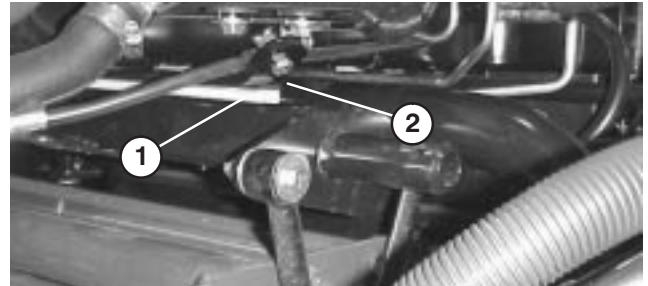
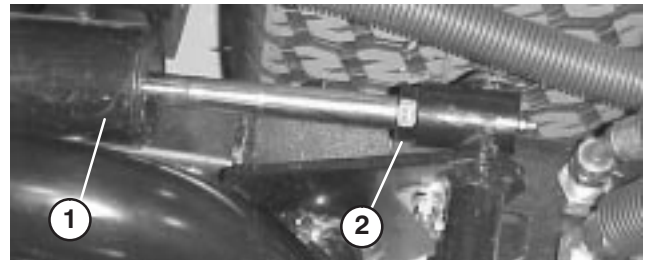

Figure 27
Figure 28
3. Start engine, raise lift arms and check to make sure clearance between wear strap on top of rear cutting unit wear bar and bumper strap is .020" – .100" (Fig. 27). If clearance is not in this range, adjust rear cylinder to attain clearance. To adjust cylinder, lower the cutting units and back off the jam nut on the cylinder (Fig. 28). Grasp cylinder rod close to the nut with a pliers and rag and rotate the rod. Raise the cutting units and check clearance. Repeat procedure if required. Tighten clevis jam nut.